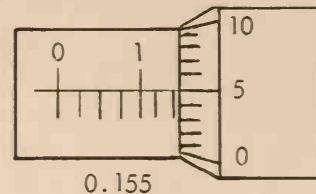

Fig. 9-7. One hundred fifty-five thousandths of an inch (0.155).
3. To read the micrometer, first take the reading on the sleeve and then add to it the reading on the thimble. For example in Fig. 9-7, you can see two